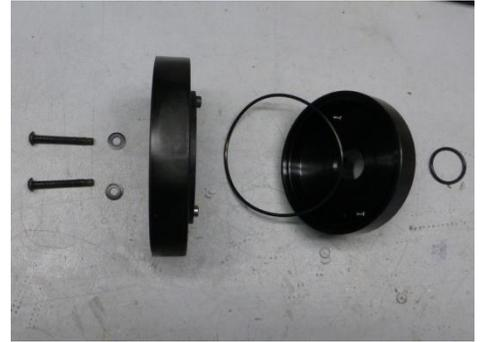

Fig. 1 - Rotary Assembly (Rotor)
1. Remove the rotary assembly (rotor) from the base. (Fig. 1)